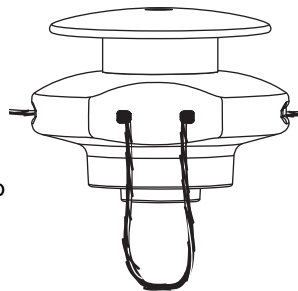

Fig. 19
2. Push the ends through until they stick out of the sides of the head (Fig. 19).